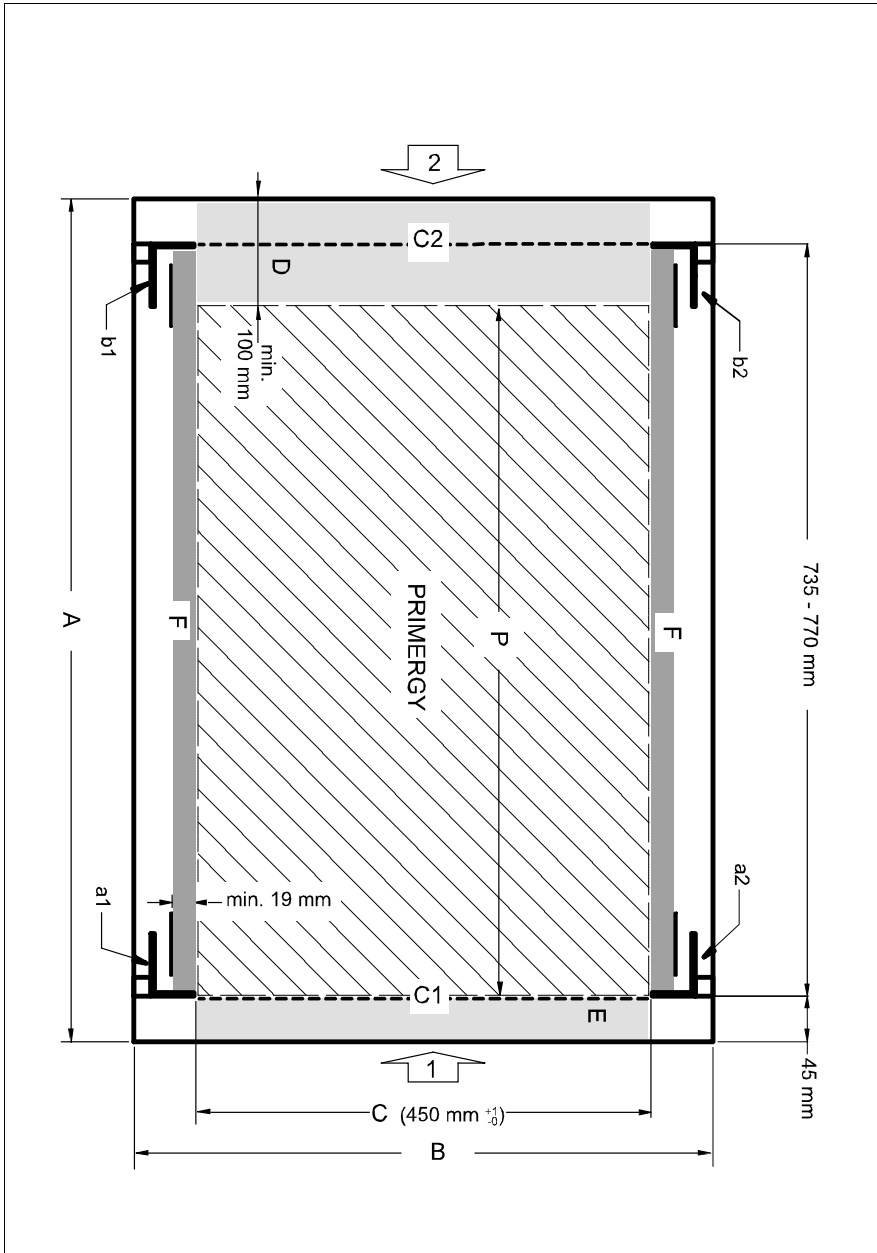

Figure 3: Mechanical requirements
- Installation dimensions (see the dimensions shown in figure 3 on page 46).